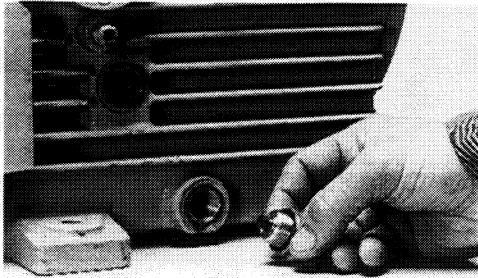

Fig. 1
Remove the electric motor, if one is attached. Then drain the oil from the case by removing the drain plug (90) located on the side of the case (Fig. 1).